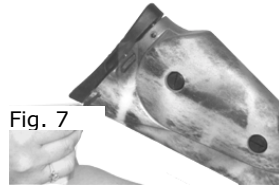

Fig. 7
1. Loosen set screws on right side of stock, located above and below the adjustment dial, enough to turn dial freely. See Figure 7